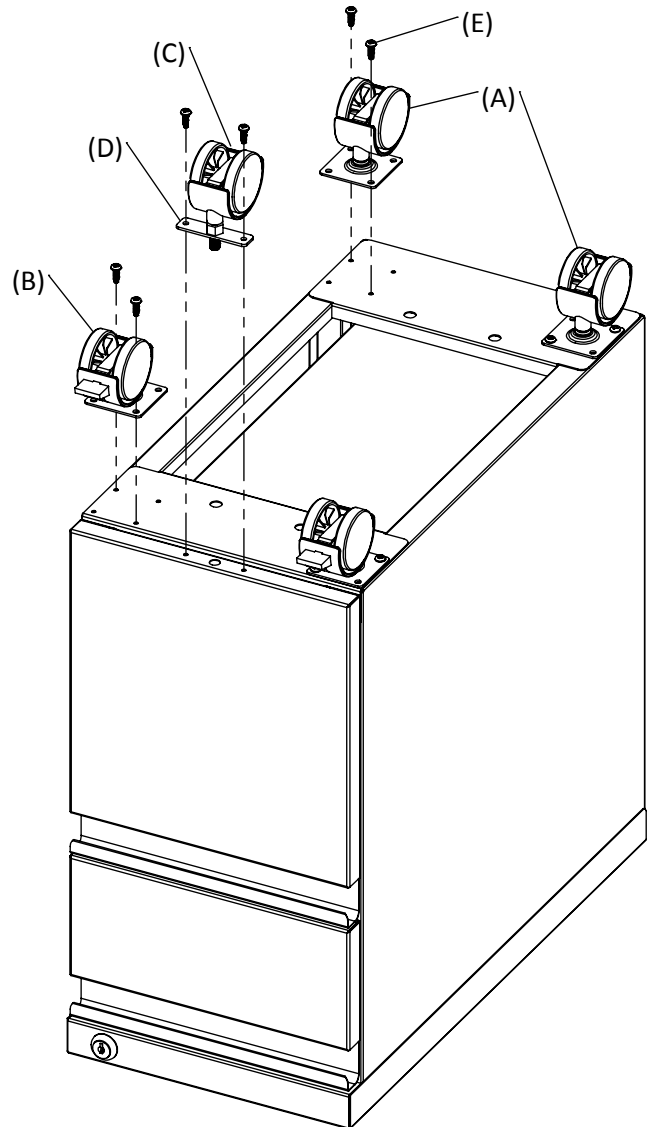

Figure 1 - Cabinet & Caster Assembly
- A. (2) Swivel Caster - 22461
- B. (2) Swivel Caster with Brake - 22461
- C. (1) Swivel Caster with Threaded Stem - 22461
- D. (1) Mounting Plate - 22461
- E. (10) Screw - 22591
STEP 2 - Swivel Caster (A):
- Align screw holes in the Swivel Caster (A) with the screw holes in the bottom of the rear of cabinet. (Figure 1)
- Attach using two screws (E) with a Phillips head screwdriver. Position screws in opposite corners.
STEP 3 - Swivel Caster with Brake (B):
- Align screw holes in the Swivel Caster with Brake (B) with the screw holes in the bottom of the front of the cabinet. (Figure 1)
STEP 4 - Swivel Caster with Threaded Stem (C):
- Align the screw holes on the Mounting Plate (D) and Swivel Caster for Drawer (C) assembly to the screw holes in the bottom of the drawer front. (Figure 1)
- Attach using two screws (E) with a Phillips head screwdriver.